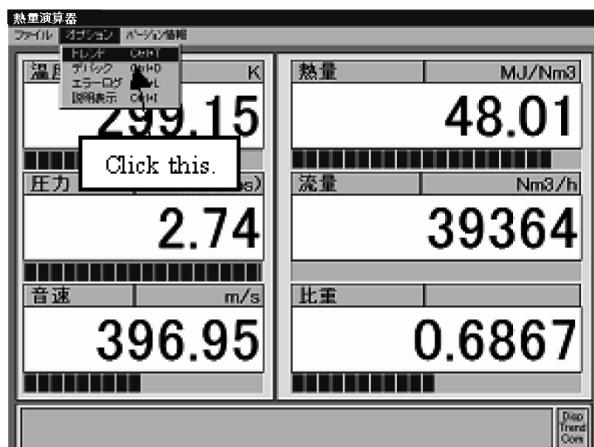

Fig. 9.5.1 Trend
3. Click [オプション] [Options]. The screen as shown in Fig. 9.5.1 appears. Here, click [トレンド] [Trend].